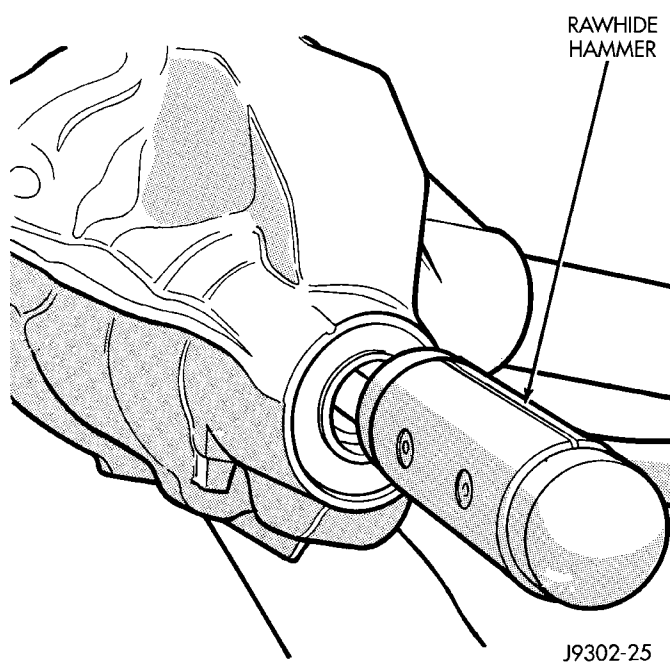

Fig. 38 Remove Pinion Gear
- (6) Remove the pinion gear from housing (Fig. 38). Catch the pinion with your hand to prevent it from falling and being damaged.